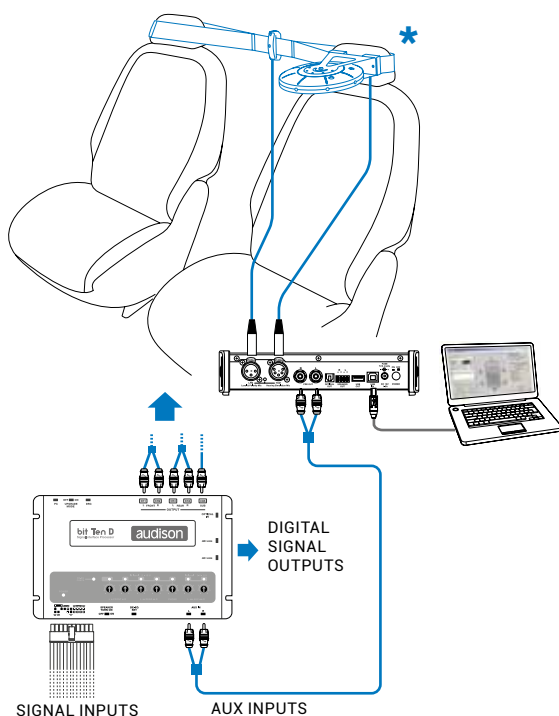

Fig. 1
1. Connect the bit Tune to the Audison bit processor, as shown in fig. 1, 2 or 3 (see points **A**, **B** and **C**). The AUTO TIME ALIGNMENT procedure must be performed in an environment that is not noisy, with the car's engine off, air conditioning off, doors and windows tightly closed and radio frequency devices away from the car's passenger compartment.